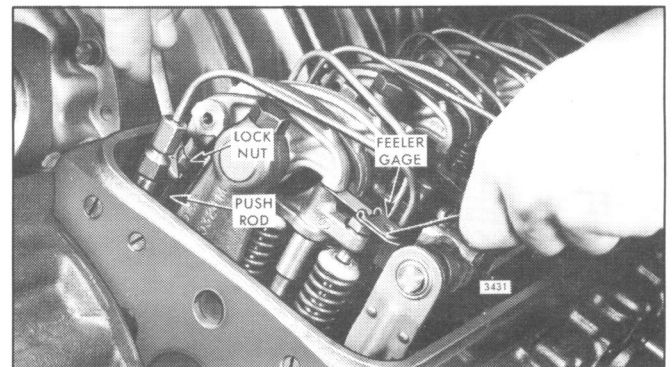

Fig. 1 – Adjusting Valve Clearance
5. Place a .016" feeler gage (J 9708-01) between the valve bridge and the valve rocker arm pallet (Fig. 1). Adjust the push rod to obtain a smooth "pull" on the feeler gage.